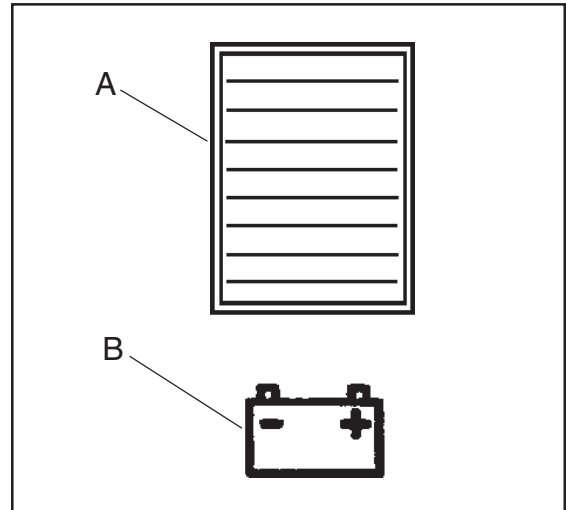

Figure 7
The battery meter ( see figure 7) on the control panel has a digital read out with 10 fixed positions (A) and also a blinking indicator (B). The bars that appear on the display show the approximate charge level with icon (blinking) discharged battery.